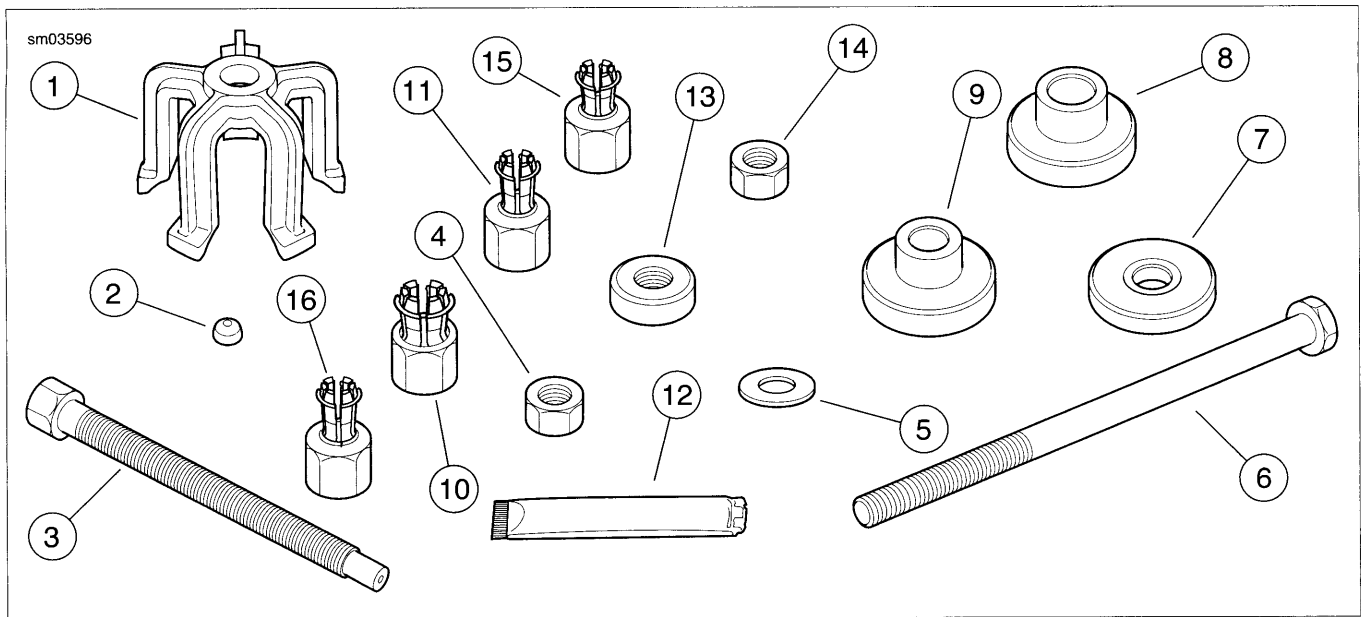
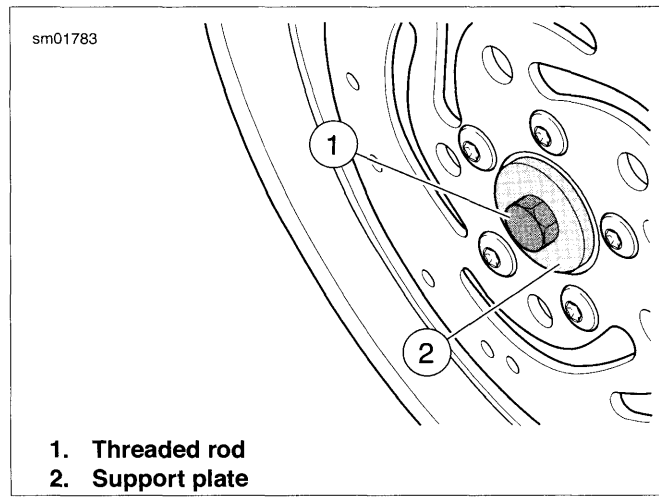

Figure 2-15. Wheel Bearing Remover/Installer (HD-44060-C) (See Table)
Figure 2-19. Assembling Installation Tool
1. See Figure 2-15. Obtain **WHEEL BEARING INSTALLER/REMOVER** (Part No. HD-44060-C) and assemble.
- a. Sparingly apply graphite lubricant to threads of threaded rod (6) for prolonged service life and smooth operation.
- b. See Figure 2-19. Place threaded rod (1) through support plate (2). Insert assembly through wheel.